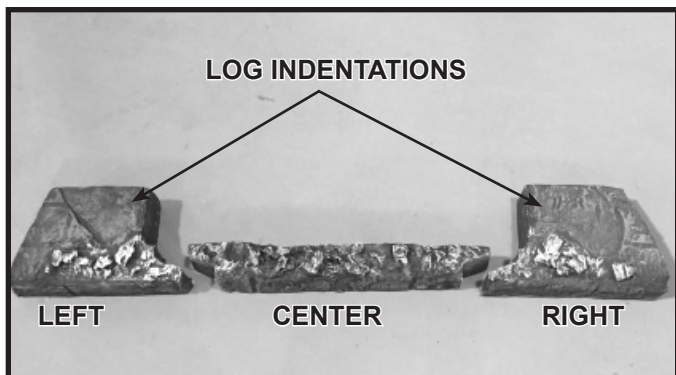
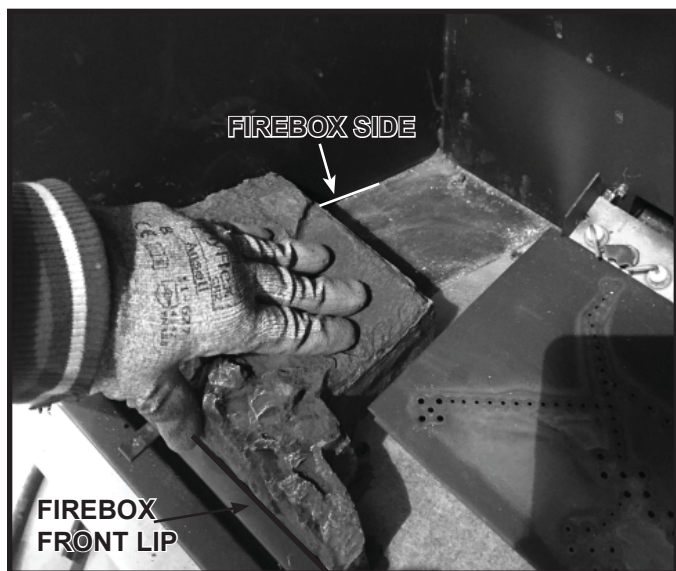
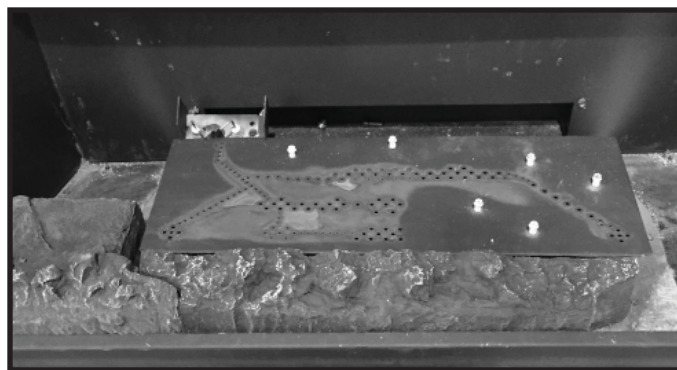
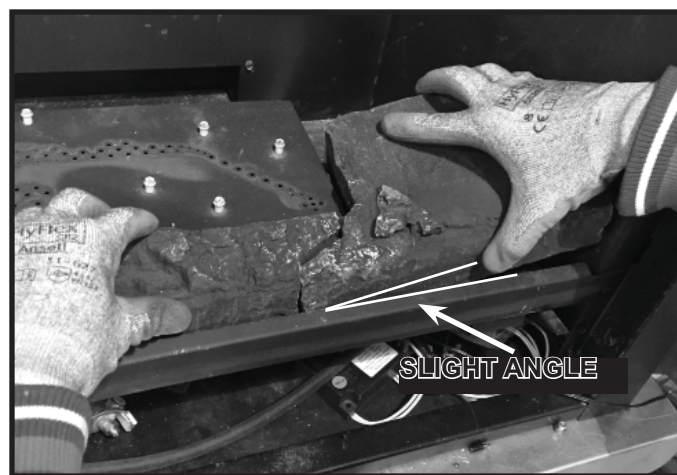

Figure 11.2 Hearth Components
Figure 11.3 Install Left Hearth Component
Figure 11.4 Install Center Hearth Component
Figure 11.5 Lift Center Hearth Component While Placing Right Hearth Component
The left, middle, and right hearth components are packaged in a separate box that is shipped inside the firebox. The three hearth components are shown in Figure 11.2.
1. Locate the left hearth component shown in Figure 11.2. Place it as shown in Figure 11.3, ensuring that the outer edge of the hearth component firmly contacts the firebox side and the front edge contacts the firebox front lip. Gently push “down” on the indentation to force the bottom side of the hearth component to engage the screw tips on the bottom of the firebox.
2. Locate the center hearth component shown in Figure 11.2 and install it adjacent to the left hearth component as shown in Figure 11.4.
3. Locate the right hearth component as shown in Figure 11.2. Install right hearth component by pointing its left tip at a slight angle as shown in Figure 11.5. When the right end of the middle hearth piece and the left tip of the right hearth component engage, gently place them in position. Push “down” on the indentation on the right hearth component to engage the screw tips at the bottom of the firebox.